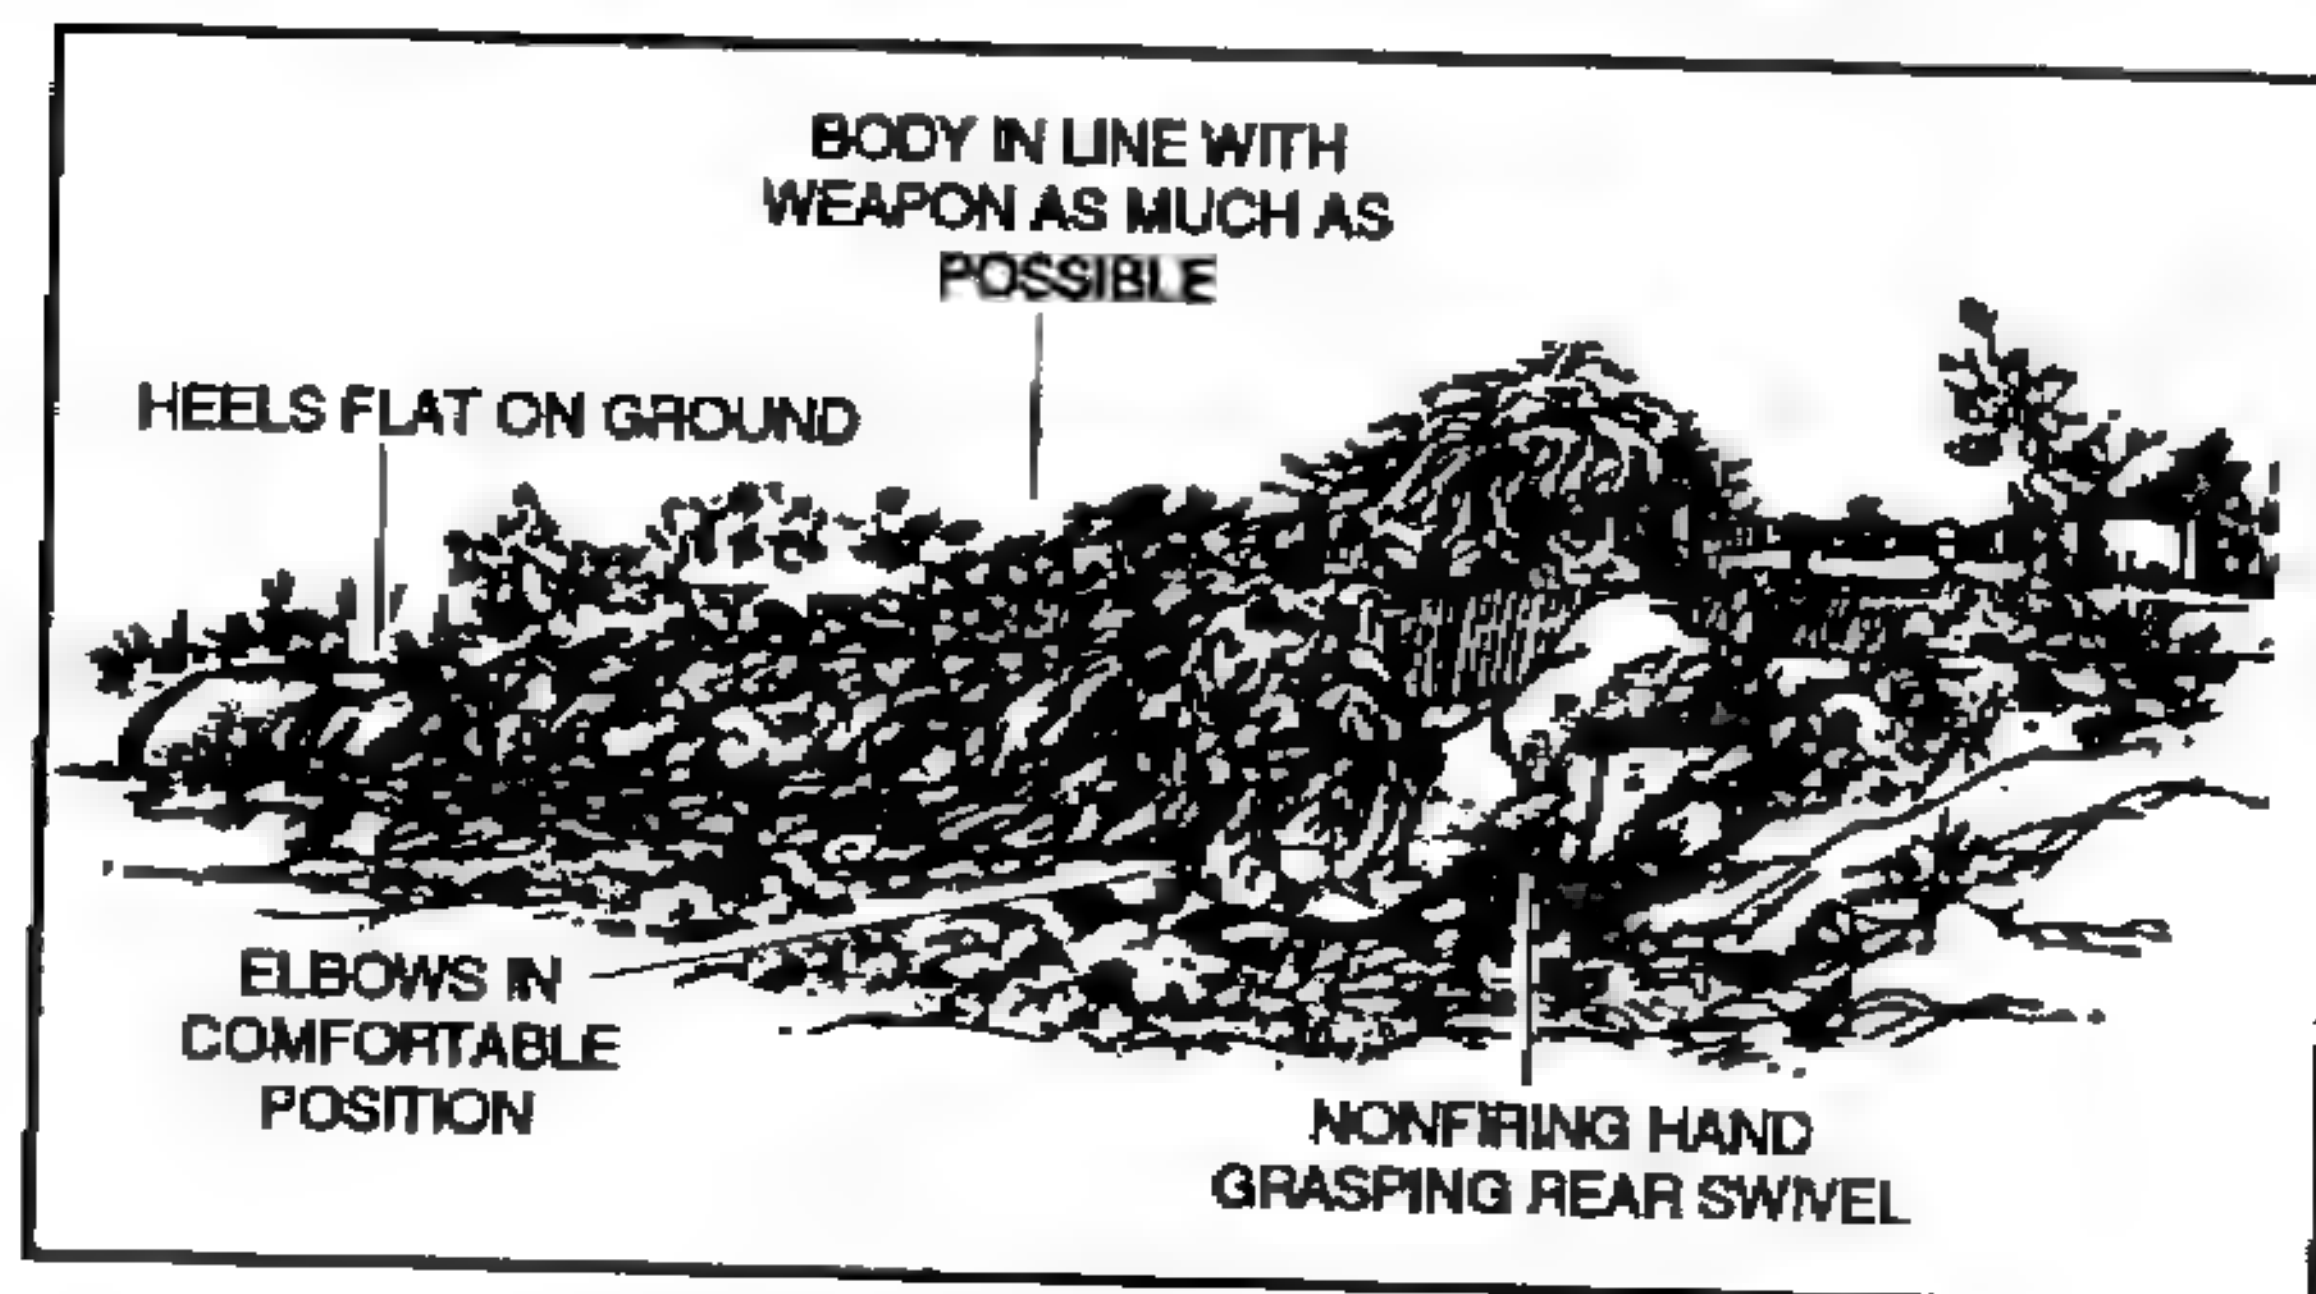

Figure 3-2. Prone supported position.
(1) **Prone supported position.** The prone supported position is the steadiest position; it should be used whenever possible (Figure 3-2). To assume the prone supported position, the sniper should—